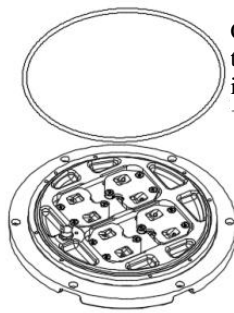

Figure 4-16
- Take out the old gasket from the seal groove of the upper cover (see Figure 4-16);